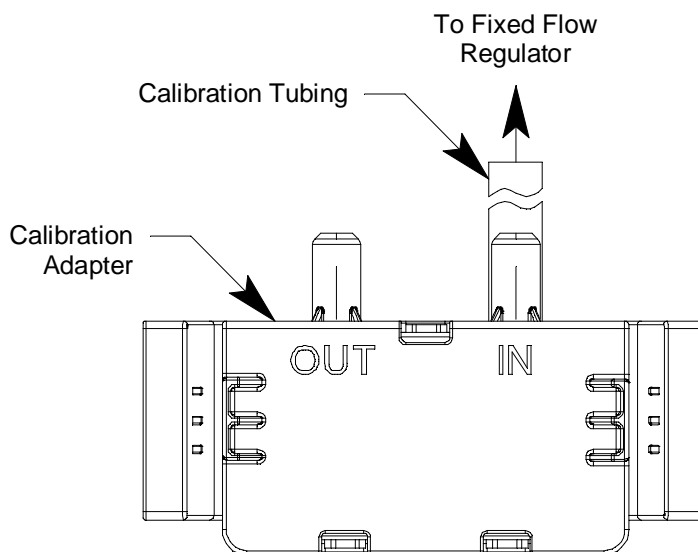

Figure 26: Calibration Kit Assembly
- Use the calibration kit sample tubing to connect the calibration adapter to the regulator. Attach the tubing to the calibration adapter on the inlet side as shown below in Figure 26.